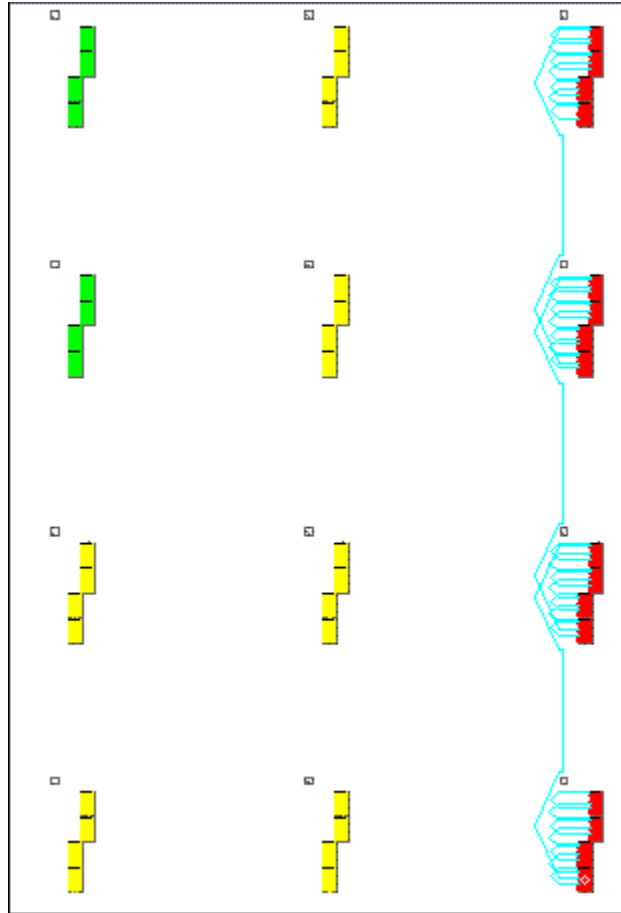

Figure 10: Correct Placement of tap\_dly Circuits
6. If the tap delay circuit is properly constrained, the logic is located in a single column in four sequential Configurable Logic Block (CLBs). This will indicate the RLOC\_ORIGIN is correct. Figure 10, page 107 is a screen capture showing an example of the correct placement of the tap\_dly circuits.